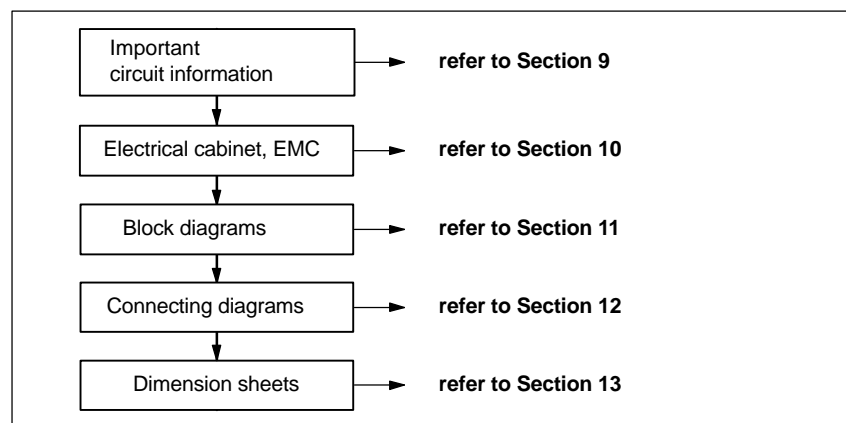

Fig. 1-5 Connection configuration
- Phase 2 Connection configuration (refer to Fig. 1-5)